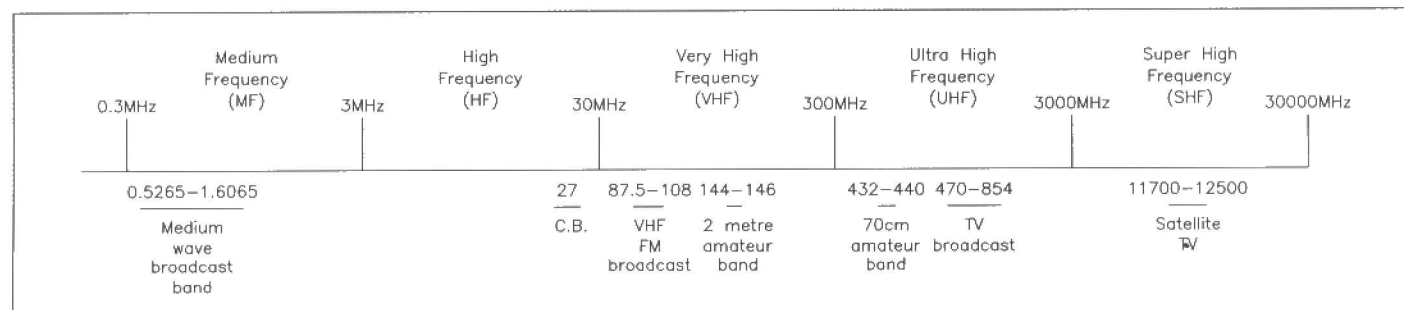

Figure 1. The Radio Spectrum.
**S**CANNERS are a totally new breed of radio, designed specifically for modern listening requirements. Normally covering the VHF and UHF portions of the spectrum, many of these radios can receive signals above 1,000MHz (1GHz), and down into the Medium Wave band, see Figure 1 for reference.